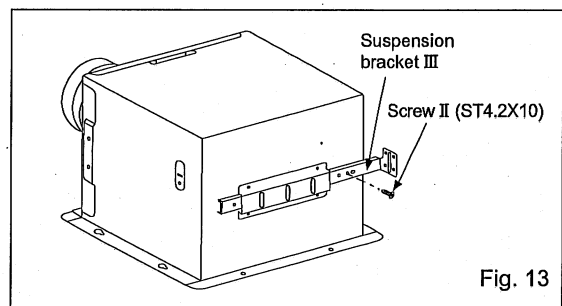

Fig. 13
2. Connect the suspension bracket III to fan body. (Fig.13)